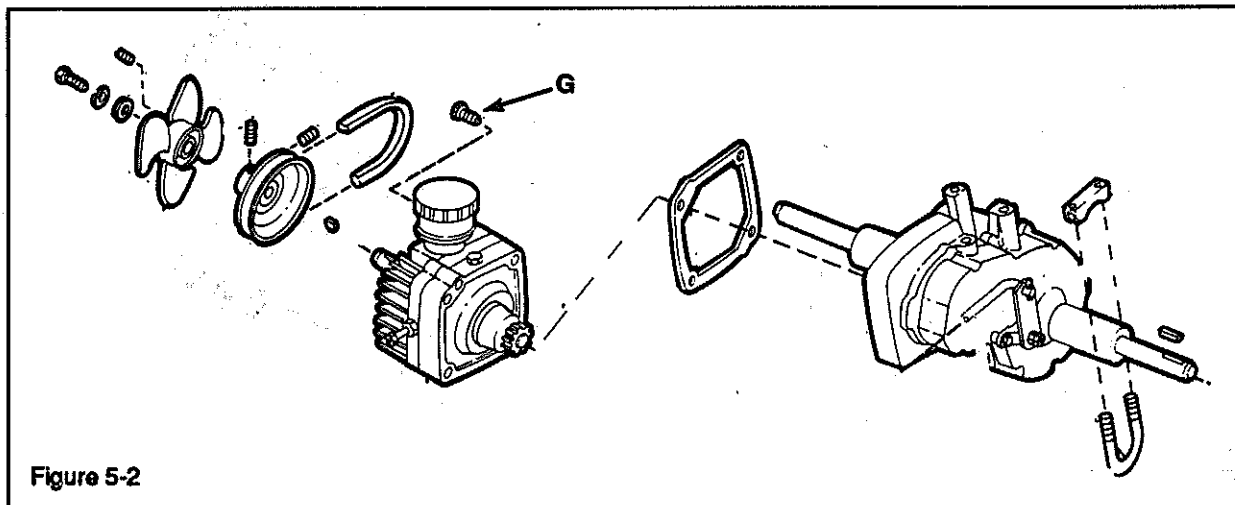

Figure 5-2
Remove the four mounting screws (G, Figure 5-2) from the transaxle case.
Before re-installing the hydro, clean the mounting surface of all oil, dirt, or grease. Run a bead of silicon rubber around mounting surface and inside of bolt holes and secure with the four screws (G) removed earlier. Figure 5-2.